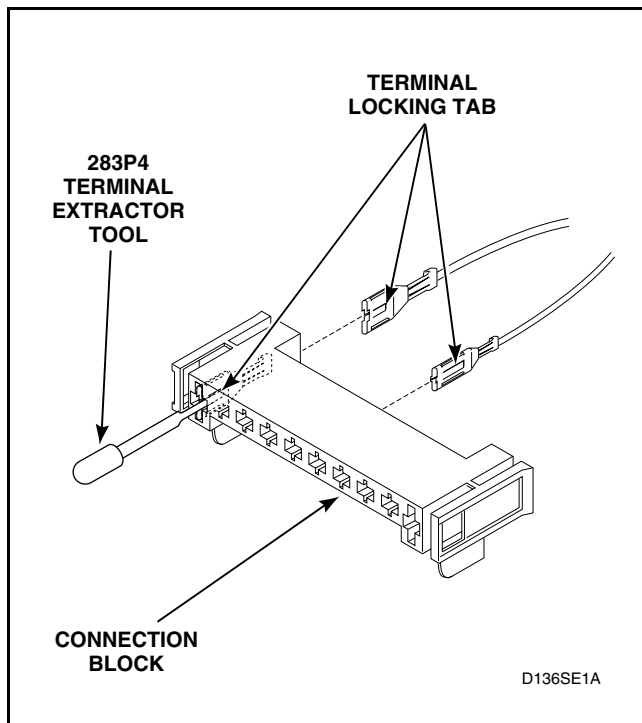

Figure 50
- (1) Insert the tool into the block on the back of the terminal being removed. Refer to *Figure 50*.
- (2) Apply tool pressure to compress the terminal locking tab on terminal and force the terminal and wire out back side of connection block. Refer to *Figure 50*.